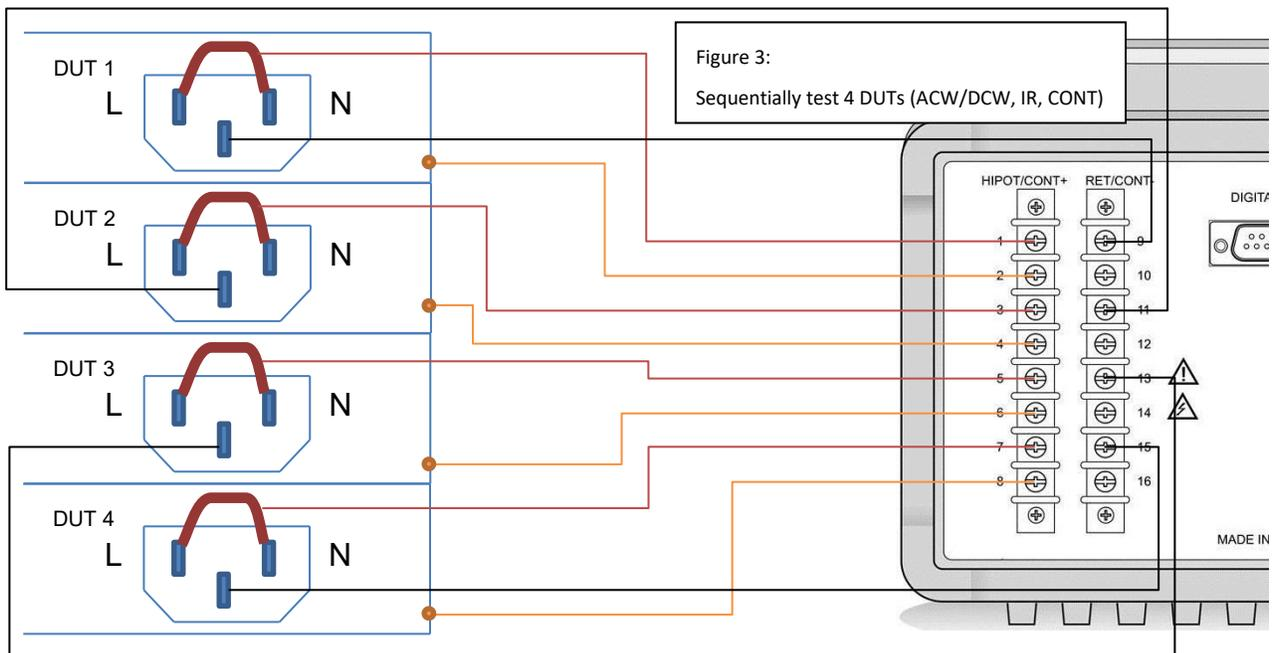

Figure 3: Sequentially test up to 4 DUTs (ACW/DCW, IR, CONT)–
- HV test point (typically the L+N terminals of the AC inlet to the DUT as shown in Figure 3) to terminal 1, 3, 5 and 7 (for DUT 1 through 4 respectively)
- Chassis Common (typically the G terminal of the AC inlet to the DUT as shown in Figure 3) to terminal 9, 11, 13 and 15 (for DUT 1 through 4 respectively)
- Chassis CONT test point (typically an exposed chassis points on each DUT as shown in Figure 3) to terminal 2, 4, 6 and 8 (for DUT 1 through 4 respectively)